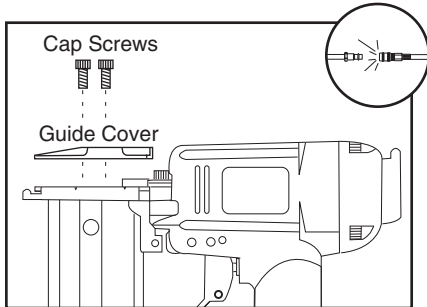

Figure 8. Removing brad nailer guide cover.
4. Remove the two cap screws and guide cover from the nose assembly (see **Figure 8**).